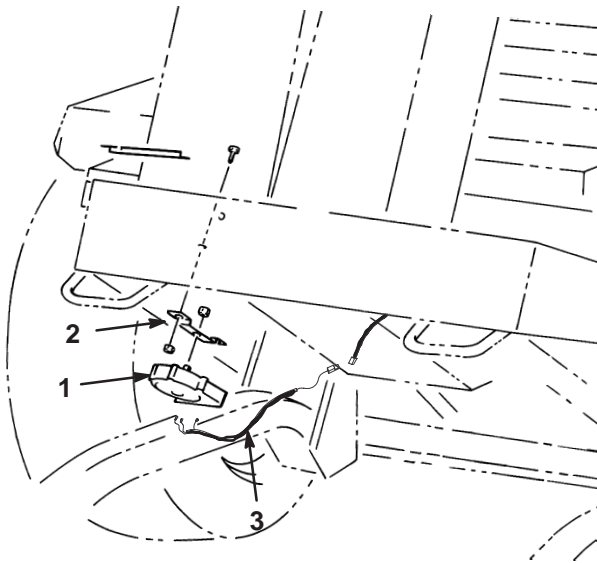

Figure 9
2. Using other horn mounting bracket (included in kit) as a template, locate, mark and drill (2) .38" dia. holes in the floor plate (at right side of the steering tower) (Fig. 9).
3. Secure horn mounting bracket to floor plate with (2) 5/16 x 5/8" screws and nuts (Fig. 9).
4. Plug horn wire harness into horn terminals (Fig. 9).
5. Mount horn to bracket with nut previously removed (Fig. 9).